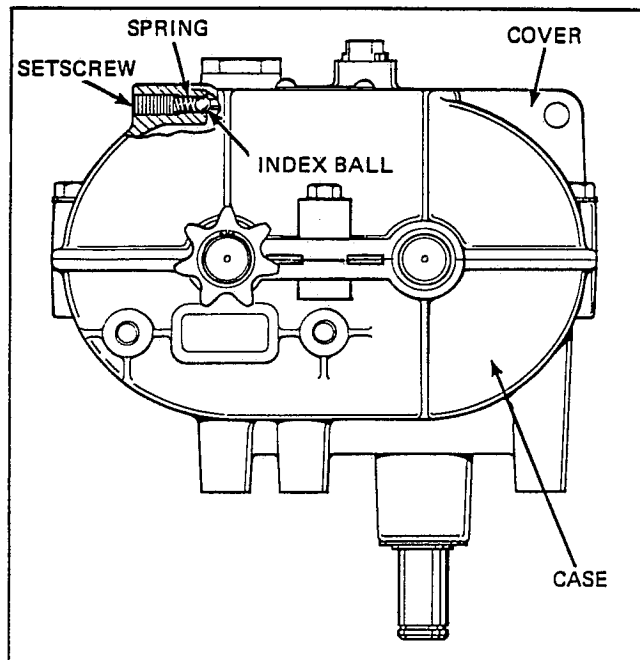

Figure 2-20
2. Remove setscrew, spring and index ball from transmission cover. See Figure 2-20.